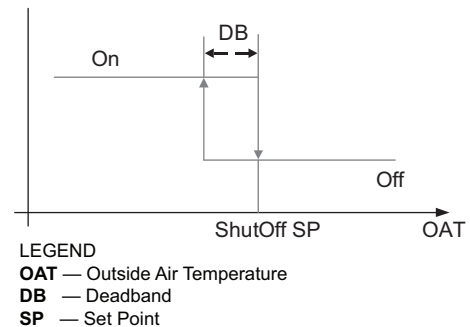

Fig. 76 — Hysteresis Settings
Hysteresis setting (DB) defaults to 2°F (–17°C). See Fig. 76.